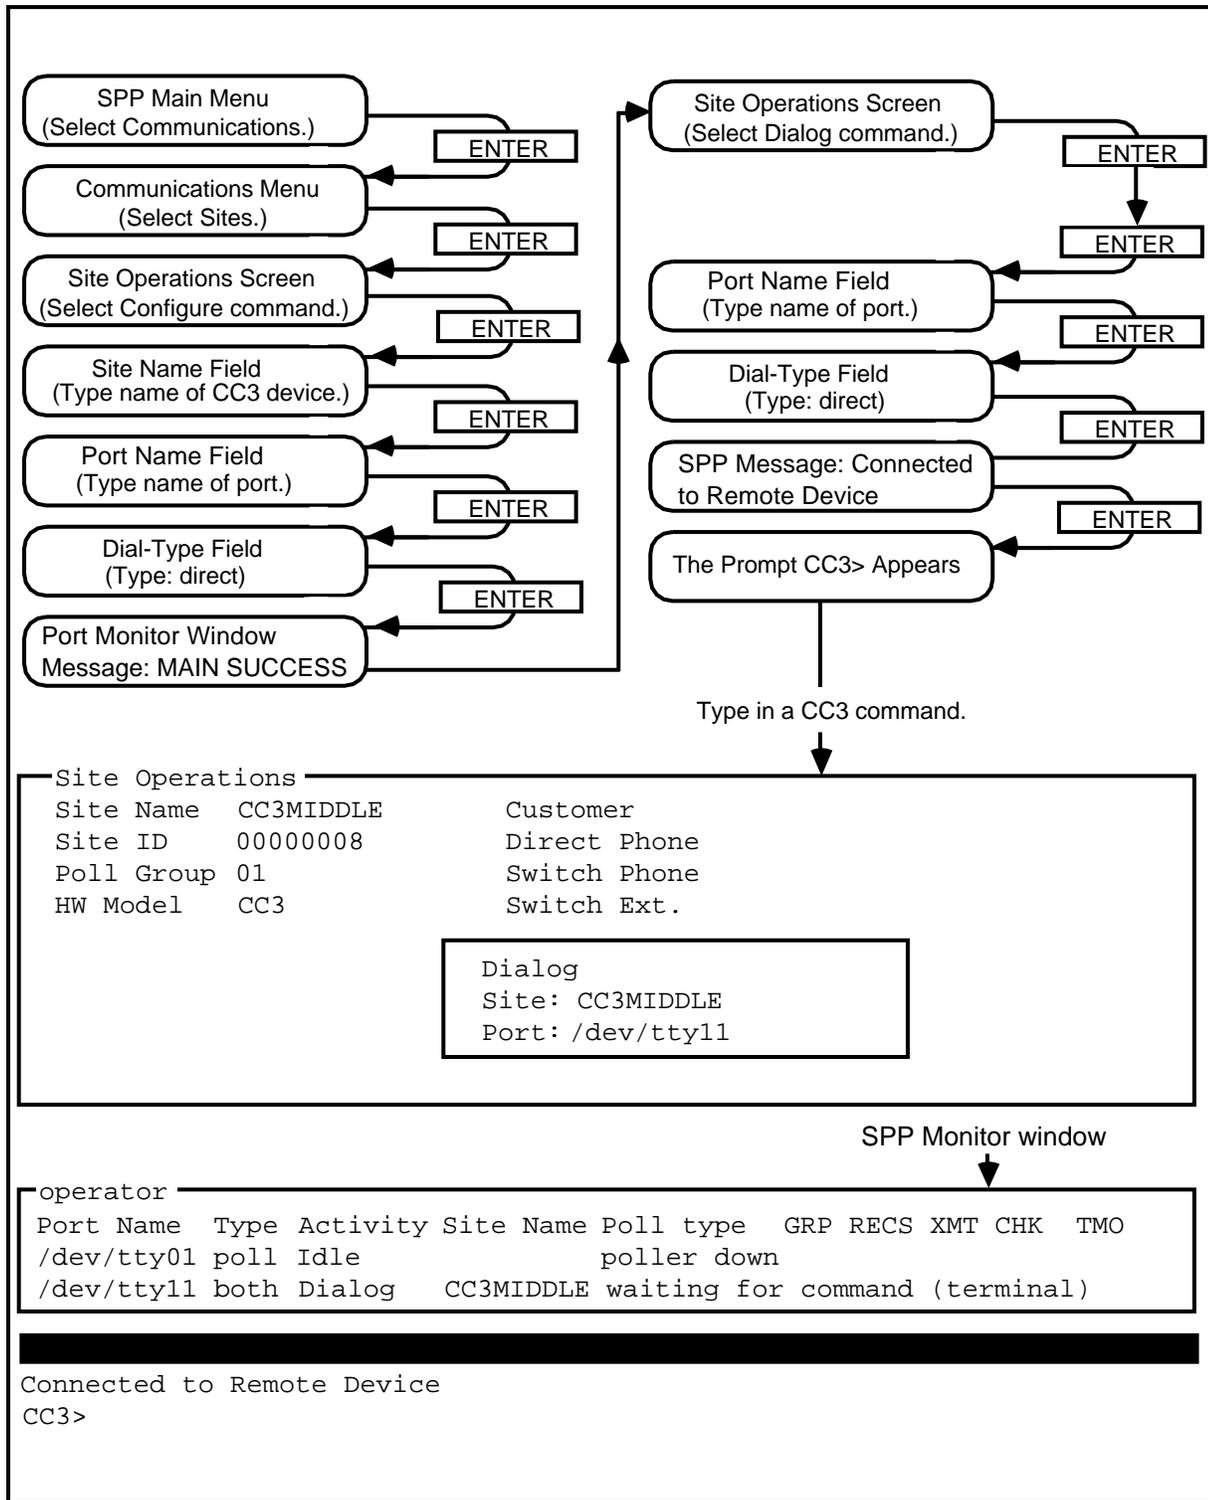

Fig. 5-3
5.05 To dialog with a CC3 device (see Fig. 5-3) proceed as follows: